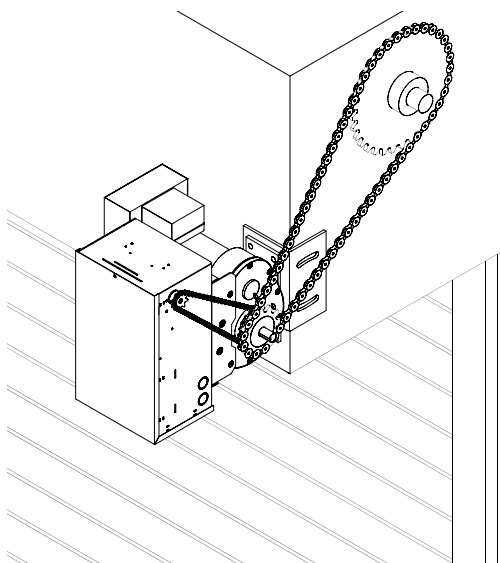

FIGURE 1
- 1a. **Bracket or Shelf Mounting (Left Hand Shown)** The operator may be mounted either above or below the door shaft. The optimum distance between the door shaft and operator drive shaft is between 12" - 15". Refer to Figure 1.